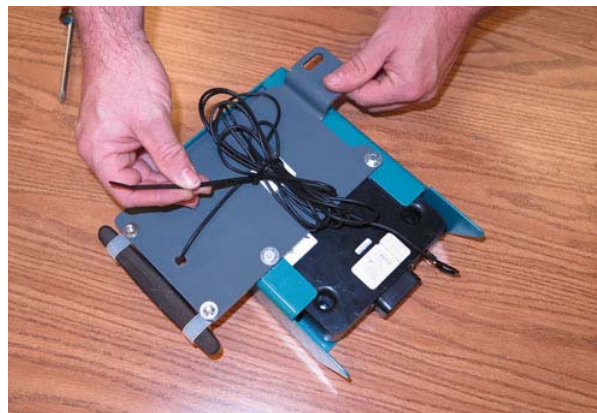

FIG. 13
17. Neatly bundle the telemetry antenna (10) cable and use a cable tie (23) to secure the telemetry antenna cable to the telemetry assembly. (Fig. 13)